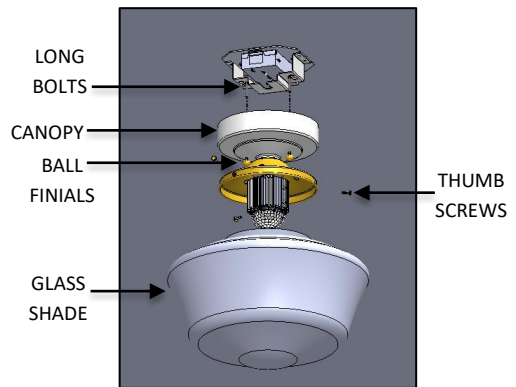

FIG. 9 – FIXTURE BODY INSTALLATION
4. Slide CANOPY over the LONG BOLTS and secure with the BALL FINIALS. Be careful not to scratch the finish of the fixture and install the GLASS SHADE using the THUMB SCREWS provided. as shown below in FIG. 9.